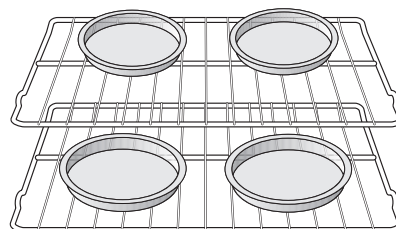

Figure 1: Baking on multiple levels
- For best results when baking cakes or cookies using 2 oven racks, place cookware and pans as shown in Figure 1